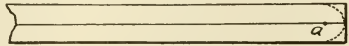

FIG. 105.—LAYING OUT ENDS OF RUNNERS.
4. **Making the runners.** — The runners are made of two pieces of $2'' \times 6'' \times 10' 4''$. The ends are rounded off by drawing an arc of a circle $2''$ in radius, holding the two planks as shown in Fig. 105, placing the point